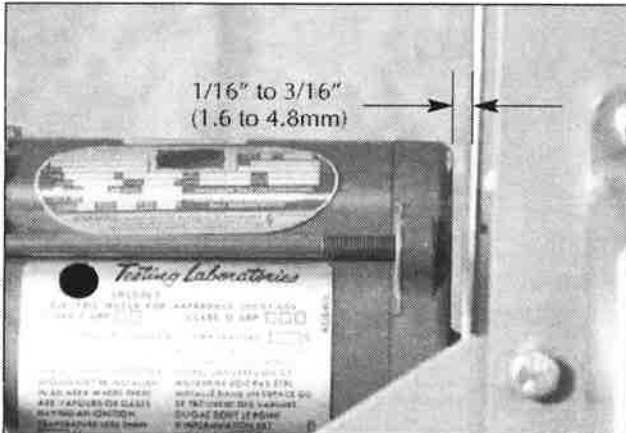

FIGURE 16
7. Simultaneously engage and tighten both ends of conduit #1 into enclosures. Leave a 1/16" to 3/16" (1.6 to 4.8 mm) gap between the motor and fan guard (see Figure 16). Adjust conduit #2 to center the fan in the shroud.